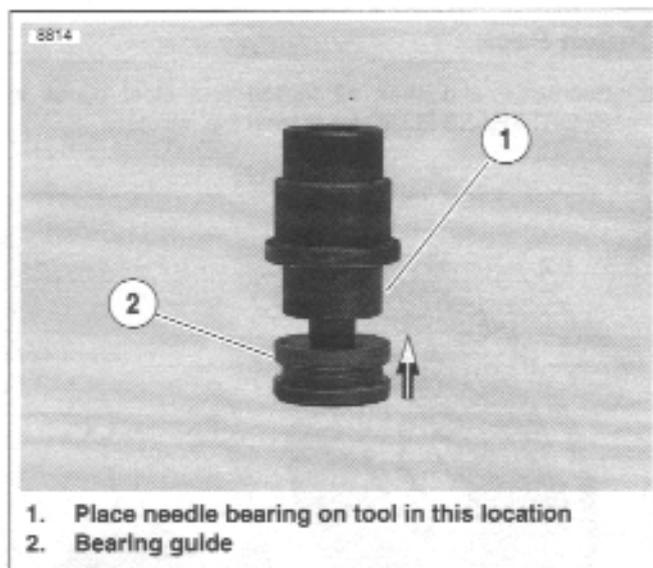

Figure 6-28. Bearing Installer
1. See Figure 6-28. Remove bearing guide from end of **CLUTCH SHELL BEARING REMOVER/INSTALLER** (Part No. B-45926).